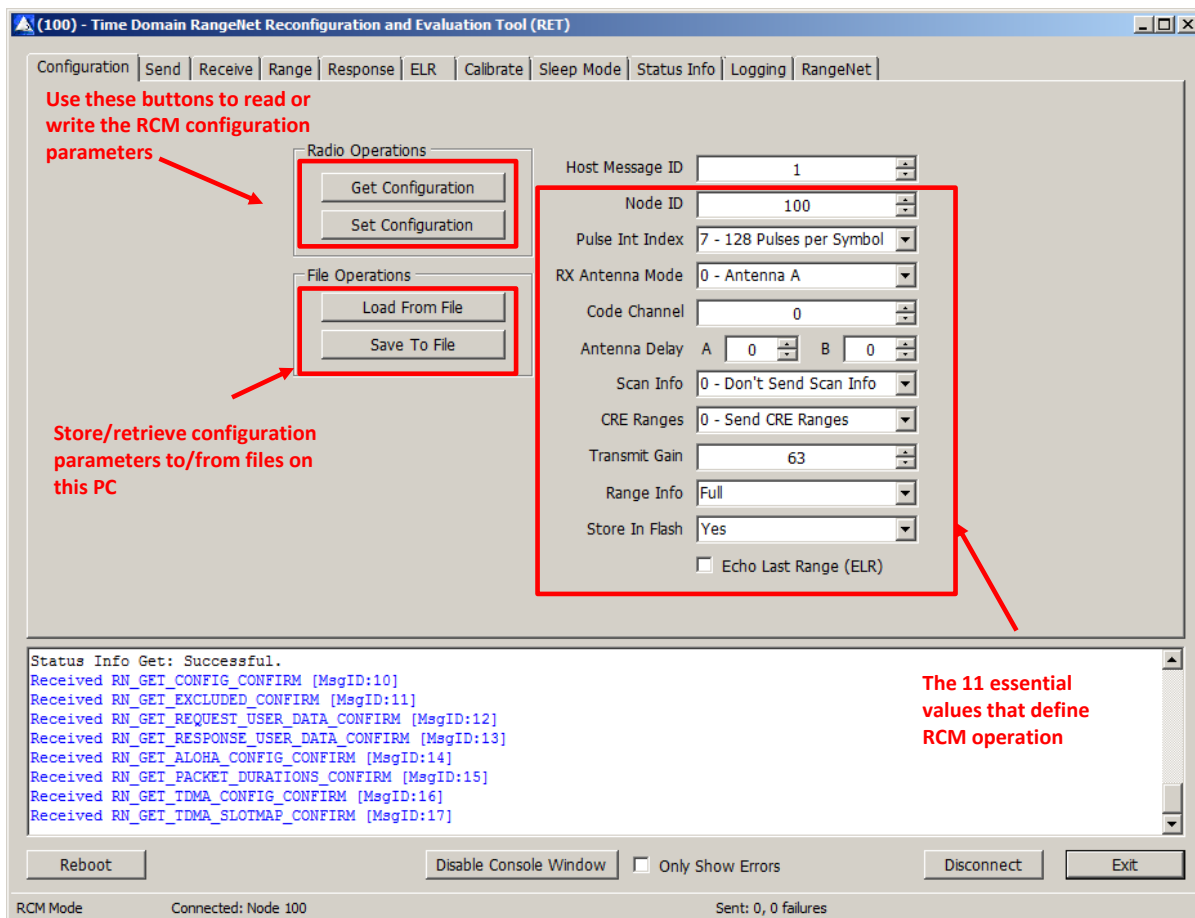

Fig. 4: Configuration Tab featuring the 11 essential configuration parameters
Successful connection to a P4xx brings up the Configuration Tab with the P4xx module's currently configured RCM parameters. This tab, shown in **Figure 4**, provides the user with an easy method for reading and writing the eleven essential RCM configuration parameters. This tab implements the RCM API messages RCM_GET_CONFIG_CONFIRM and RCM_SET_CONFIG_REQUEST. These messages get and set the (1) Node ID, (2) Pulse Integration Index, (3) Receive Antenna Mode, (4) Code Channel, (5) Antenna Delay A&B, (6) Scan Info Flag, (7) CRE (Course Range Estimation) flag, (8) Transmit Gain, (9) Range Info Flag, (10) Store in Flash Flag and (11) Echo Last Range flag.